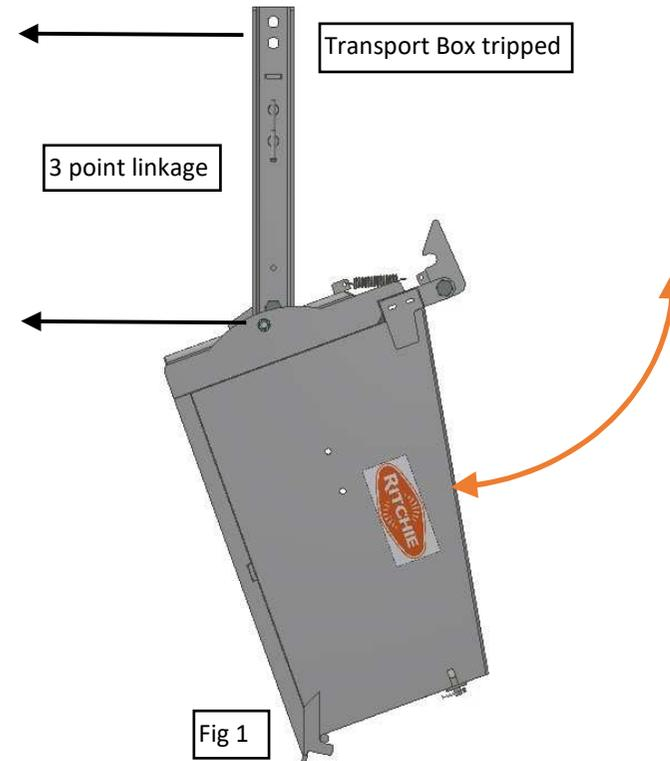

Fig 1
- 4) To reset the Transport Box back to its fixed position. Simply drop the Transport Box to ground level, where the trip mechanism will automatically reset. Fig 1.